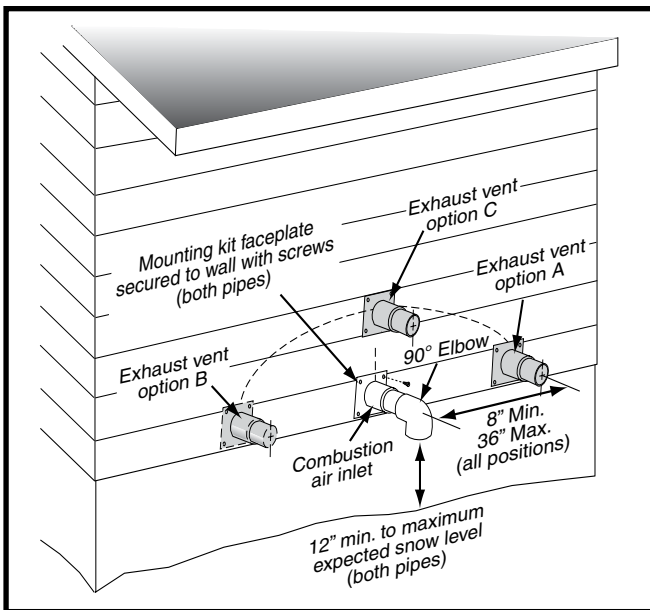
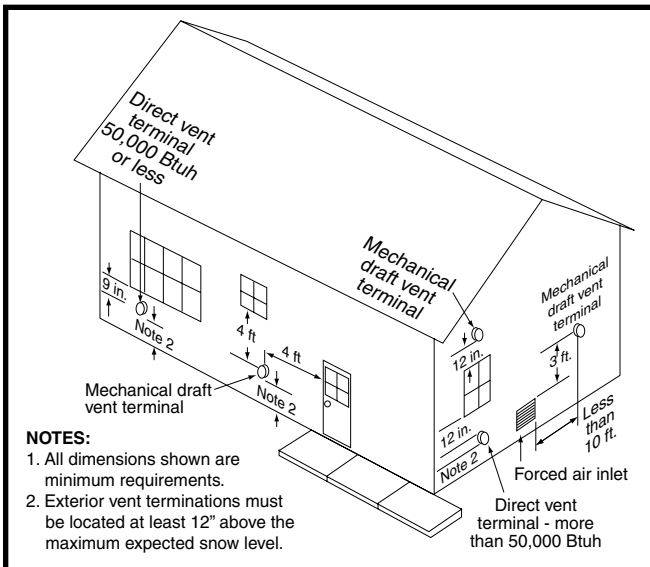
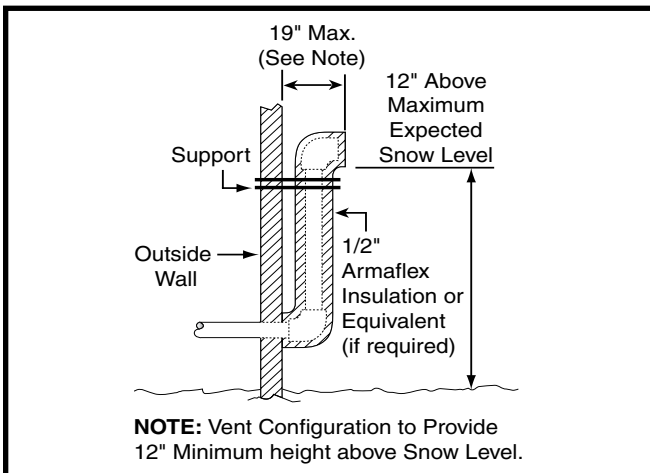
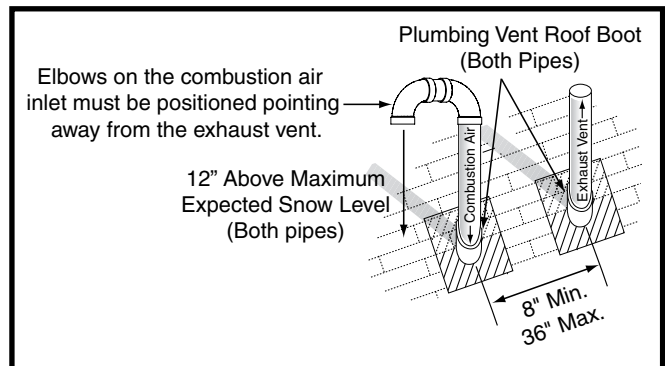

Figure 1. Inlet & Exhaust Pipe Clearances
Figure 2. Vent Locations
Figure 3. Alternate Horizontal Vent Installation
Figure 4. Vertical Vent Termination
- When a 2-pipe system is used, the combustion air intake and the vent exhaust must be located in the same atmospheric pressure zone. This means both pipes must exit the building through the same portion of exterior wall or roof as shown in Figure 1, Figure 2 & Figure 4 (page 9) and Figure 29 (page 37).
- Vent and combustion air intake terminations shall be installed as shown in Figure 1, Figure 2, Figure 3, & Figure 4 and in accordance with these instructions:
- All minimum clearances (Figure 2) must be maintained to protect building materials from degradation by flue gases.
- When the vent pipe must exit an exterior wall close to the grade or expected snow level where it is not possible to obtain clearances shown in Figure 1, a riser may be provided as shown in Figure 3. Insulation is required to prevent freezing of this section of pipe. See Table 3, (page 10) for vent freezing protection.
Termination spacing requirements from the roof and from each other are shown in Figure 4. The roof penetration must be properly flashed and waterproofed with a plumbing roof boot or equivalent flashing. Vent and combustion air piping may be installed in an existing chimney which is not in use provided that:
- The termination clearances shown in Figure 4 are maintained.